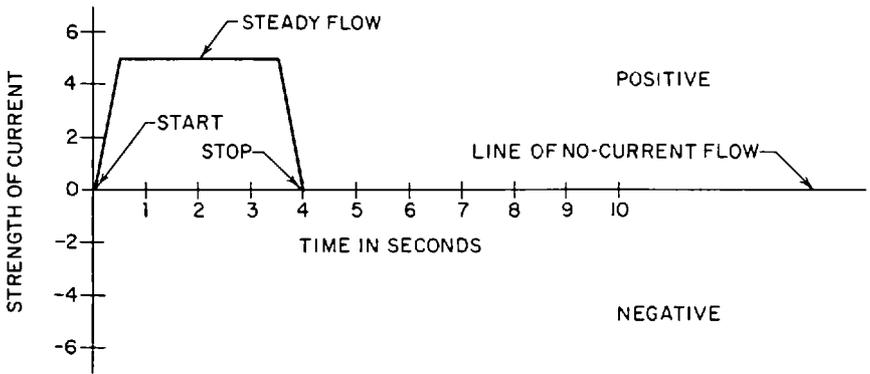
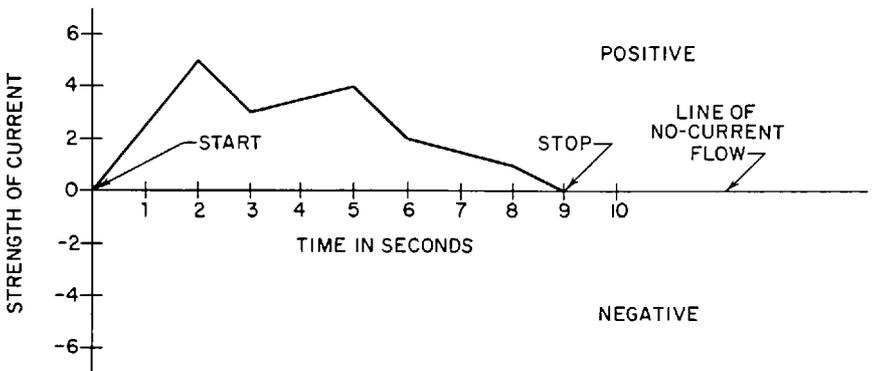

Fig. 9-2. A graph of the curve or waveform of a steady direct current.
Fig. 9-3. Graph of the curve or waveform of a fluctuating direct current. Note that the strength of the current may assume different values at different times.
**Graph of Direct-Current Flow.** We can draw such a chart or graph to show how electric current flows. First we draw a horizontal line and call it the *line of no-current flow*. When electric current flows in one direction, we call it *positive* and picture its path above the line of no-current flow. When electric current reverses itself and flows in the opposite direction, we call it *negative* and picture its path below the line of no-current flow. Thus, the path of a direct current is entirely above that line. If the current is a steady direct current, the picture of its flow starts at the line of no-current flow and very quickly rises above it to the maximum strength of the current (Fig. 9-2). It then continues to flow at a steady strength of current, and we picture it as a straight horizontal line until the instant when the current is cut off. At that point, the line drops down to zero, the line of no flow. The line we draw picturing that flow of current is called the *curve*, or *waveform*.
**Fluctuating Direct Current.** A direct current may be either steady or fluctuating. If it is steady, the current strength, or maximum distance away from the line of no-current flow, is constant while the current is flowing, as shown in Figure 9-2. In the case of a fluctuating direct current, the current strength is different at different instants of time, as shown in Figure 9-3.
Note that in both Figures 9-2 and 9-3 the current is direct current—that is, it flows in only one direction. You can see this from the graphs by observing that in both cases the curves lie entirely above the line of no-current flow.